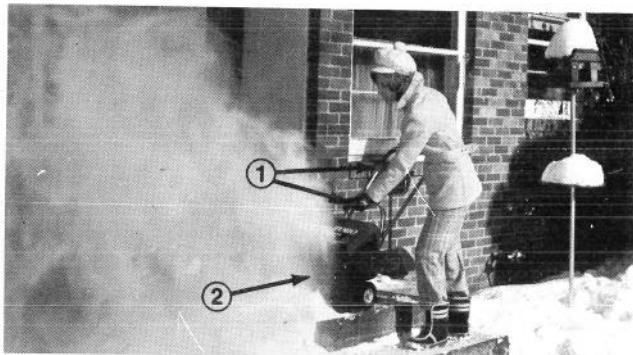

Figure 10
5. When clearing snow from steps or cutting through deep drifts, hold snowblower by the upper and lower handles and use a sweeping side to side motion (Fig. 10).